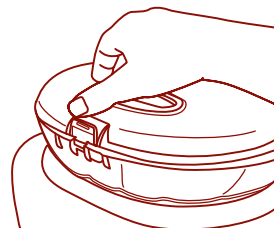

Figure 3
4. Remove the Ice Reservoir Lid using the Release Button located on the top of the Ice Reservoir. *Figure 3*